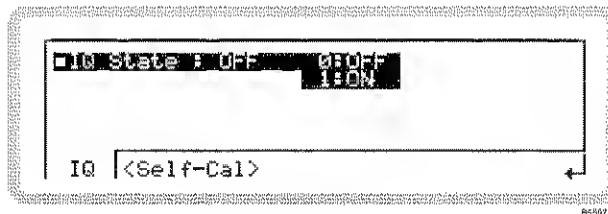
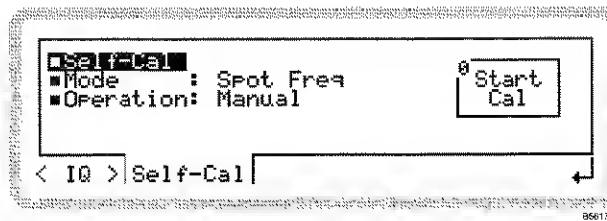

Fig. 3-27 Internal IQ
Fig. 3-28 Self-calibration
- 2 Press **SIG GEN** to show the main screen, and touch the **IQ** soft box to select the function. Touch **IQ** and press **[...]** to view the internal IQ modulation menu (Fig. 3-27).
From the internal IQ menu of Fig. 3-27, touch <Self-Cal> or press **<TAB>** to display the self-calibration screen (Fig. 3-28).